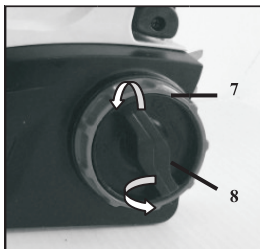

Fig.2
- Wear gloves during assembly. Loosen bar adjustment locking knob (8) counterclockwise one or two full turns.
- Then the chain tensioning knob (7) must be fully unscrewed counterclockwise until it stops.
- Now the bar adjustment locking knob (8) should be unscrewed counterclockwise until it stops.
- Then take off the side cover. (Fig.2)